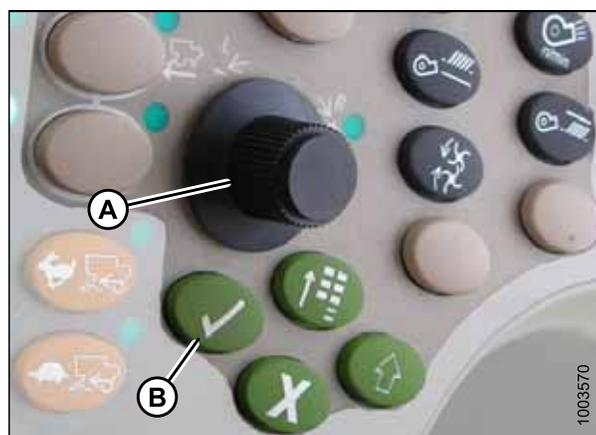

Figure 5.160: John Deere Combine Control Console
7. Select HEADER in box (A) by scrolling down to box using scroll knob, and then pressing check mark button (knob and button are shown in Figure 5.160, page 215).
8. Scroll down to lower right icon that resembles an arrow in a diamond (B) and press check mark button to select it.